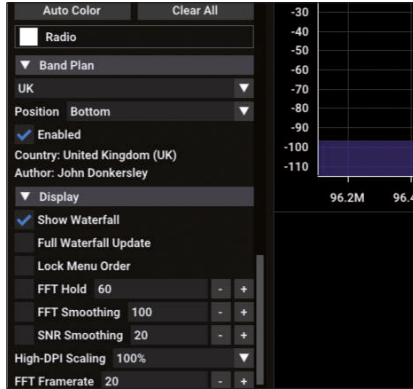

Figure 9.7: Enable Waterfall.
- Click **Display** and enable **Show Waterfall** (Figure 9.7).